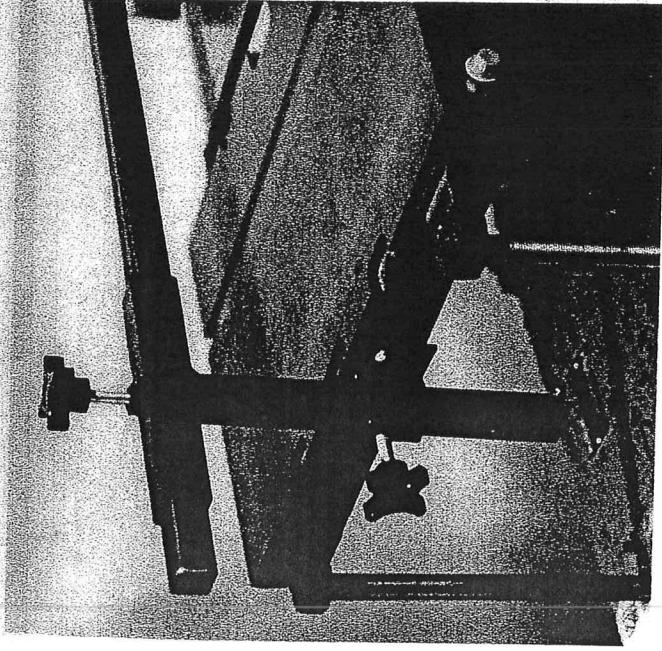
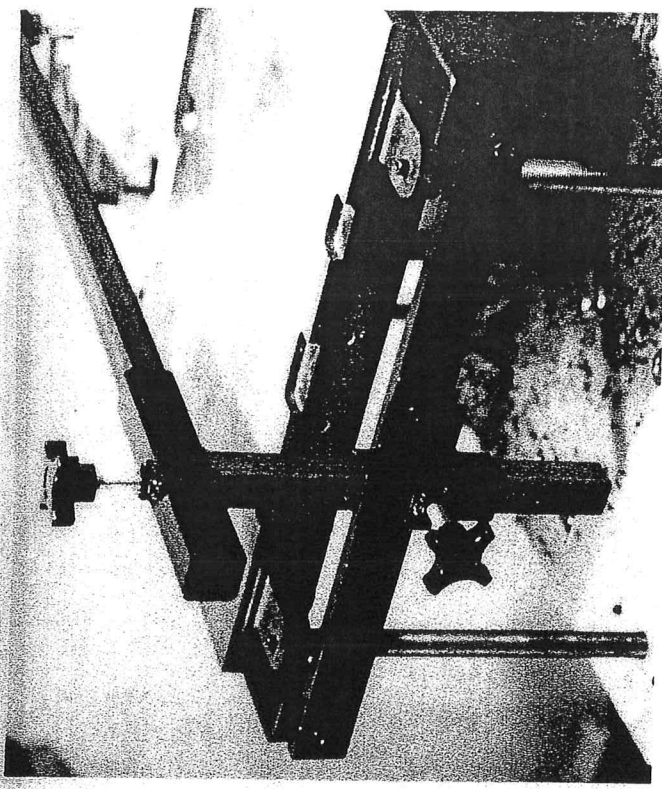

Fig. 39
Fig. 40
2. Install the optional JM-81 Pin Router Attachment to the aluminum table. (fig. 39) For Joint Machines with cast iron tables, the JM-85 Adapter Assembly must be used with the Router Attachment. (fig. 40)